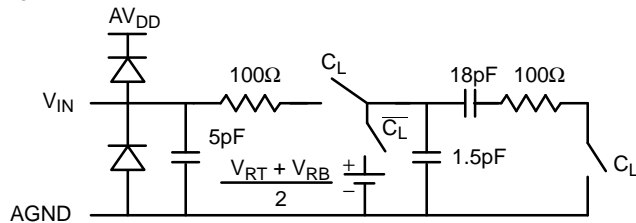

Figure 8. Equivalent Input Circuit
- ⁵ See V_{IN} equivalent circuit (*Figure 8*). Switched capacitor analog input requires driver with low output resistance.
This part has a switched capacitor type input circuit. This means that the input impedance changes with the phase of the input clock. V_{IN} is sampled at the high to low clock transition. Figure 8. shows an equivalent input circuit.